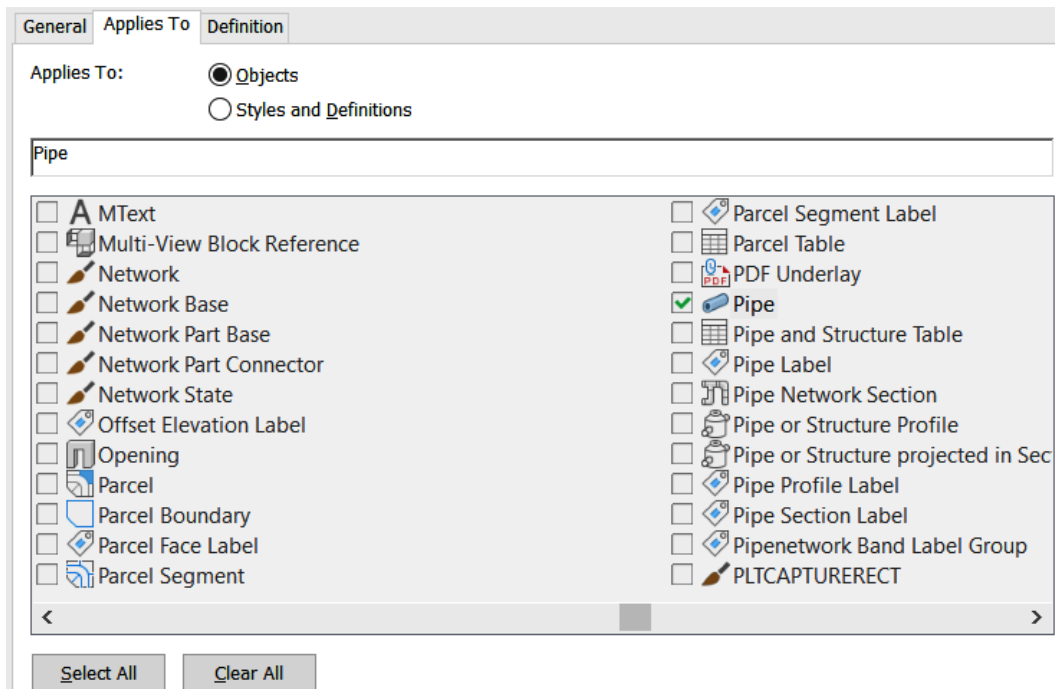

Figure 10.5 – Selecting objects to associate property sets to
4. Next, we'll switch over to the **Applies To** tab. Here, we have the option to select any objects we want to associate our property sets to. In our case, we only want to focus on adding additional information to our **Storm Drainage** pipes. That said, let's go ahead and check the box next to **Pipe**, as shown in *Figure 10.5*.